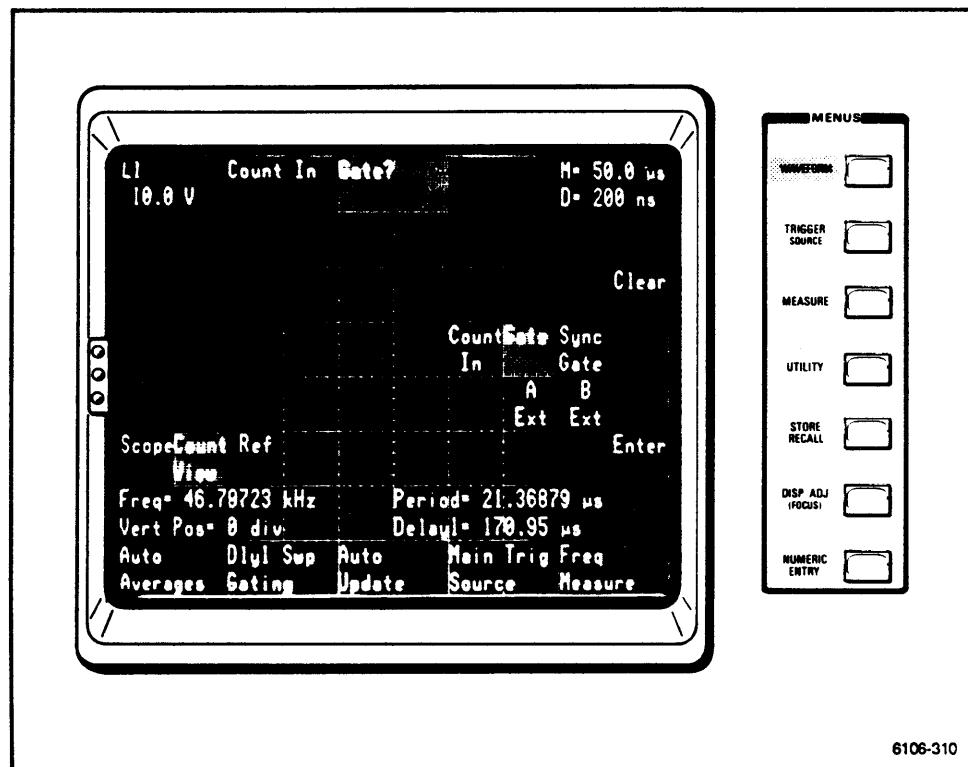

Figure 2-111. The WAVEFORM major menu with Count View selected, and the Count View menu with Gate selected.
3. From the WAVEFORM major menu, display the counter view signal called Gate by touching **Gate** in the *Count View* menu. Turn off the menu by pressing the WAVEFORM major menu button again. (See Fig. 2-111.)